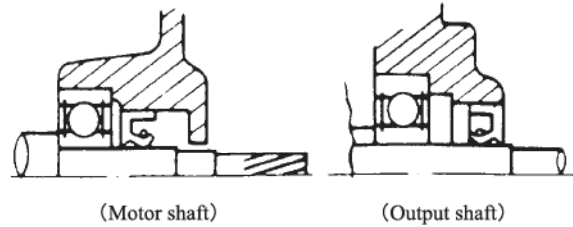

Fig. 9 Oil seal insertion Method
- (2) Observe the oil seal insertion direction shown in Fig. 9. If the oil seal is inserted in the opposite direction, it may cause oil leak.